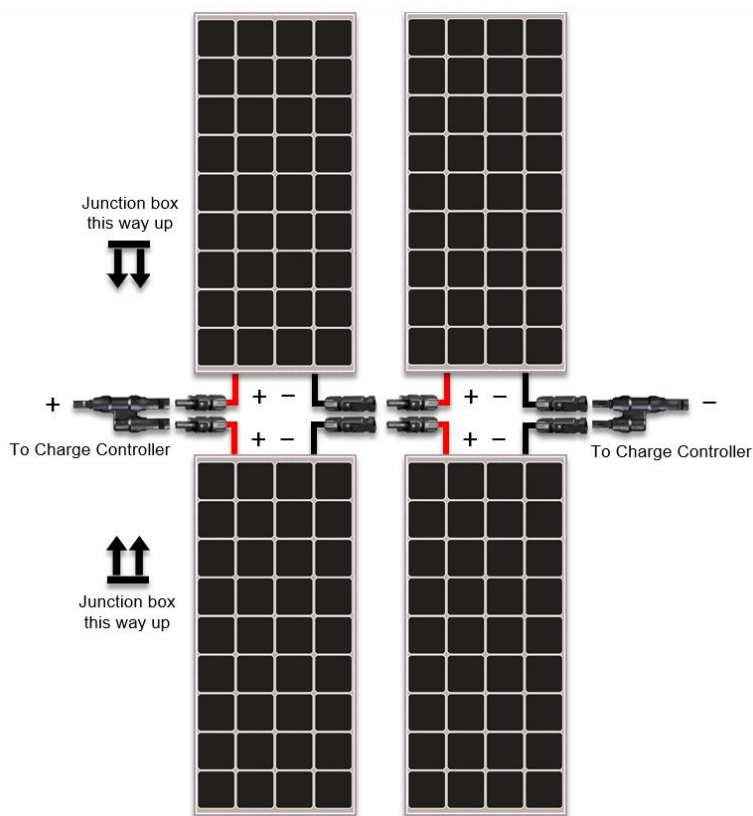

Figure 8.6 Four RNG-100D Panels in series-parallel configuration
For 24V systems, **Fig. 8.6.** Shows two strings of panels in parallel. Each string consists of two panels in series. No additional cabling is required if the solar panels are to be mounted in a **2x2** configuration as shown above. Please note the orientation of the junction boxes. This connection requires a **one (1)** pair of MC4 Branch Connectors. When one or multiple panels are mounted at different locations- that is, separated by a distance, the panels must be extended with MC4 Extension Cables (sold separately).